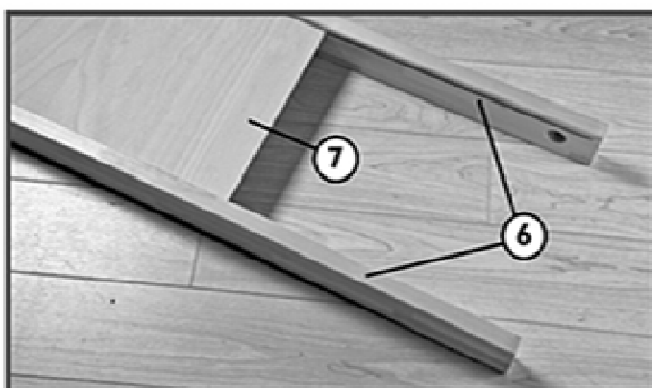

Fig. 2
2. Slide the Centre Shelf (7) into the grooves of both Middle Stretchers (6) as shown in Fig.2